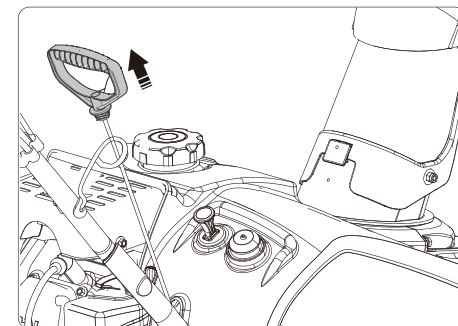

Fig 10
6. Pull the starter handle slowly until resistance felt, then pull rapidly. (Fig 10)